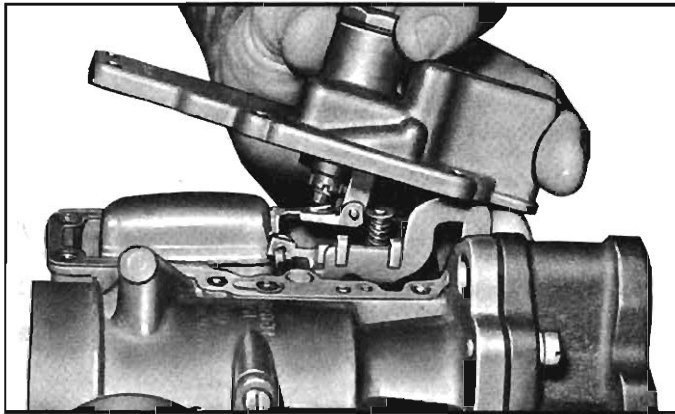

Fig. 9-28—Removing Bowl Cover
2. Remove six bowl cover screws and remove bowl cover (fig. 9-28).